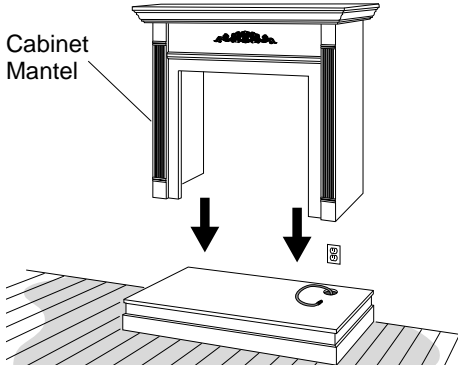

Figure 24 - Installing Cabinet Mantel
- Carefully place fireplace on top of hearth base (Figure 24, page 13). Be careful not to scratch or damage hearth base. *Note:* You can secure fireplace to hearth or floor. Open louver door. Locate screw holes in bottom of base. Secure with wood screws through these holes and into hearth or floor.